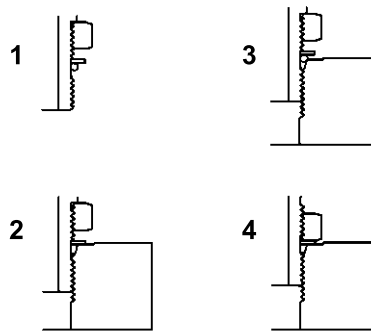

Figure 26
4. Turn back the lock nut as far as possible. Ensure that the back-up washer is not loose and it is pushed up as far as possible (Step 1 in Figure 26).
5. Install the adjustable fitting into the port by hand until the washer contacts the face of the port (Step 2 in Figure 26).
6. If the adjustable fitting needs to align with another component, rotate the fitting counterclockwise until it is aligned to the desired position (Step 3 in Figure 26). Do not rotate the adjustable fitting more than 1 turn counterclockwise.
7. Tighten the fitting lock nut (Step 4 in Figure 26):